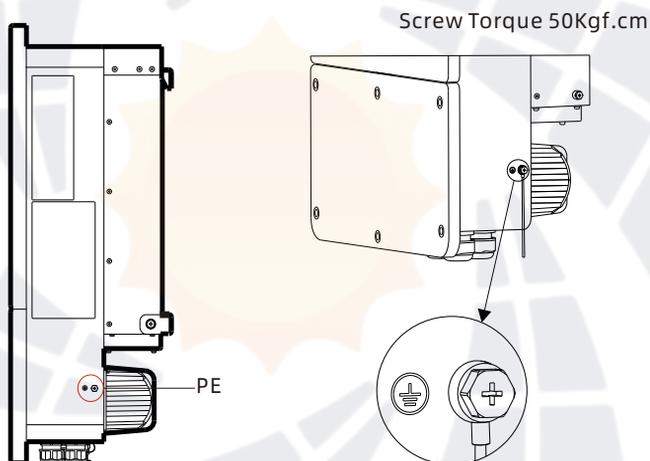

Fig 6.8 Protective earthing position
- 4) The position of the ground points of the WIT 4-15K-HU Hybrid Inverter is shown in Fig 6.8.